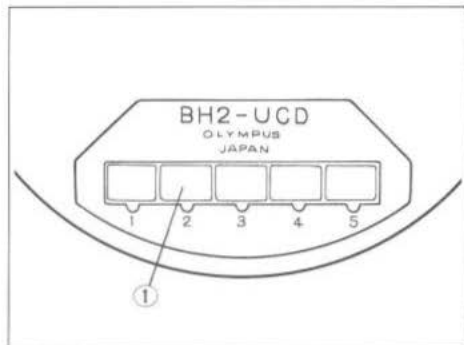

Fig. 7
(2) Attach the index plates for the optical elements into the turret below each turret aperture number on the optical element index mount ① on the top surface of the turret cover. (Fig. 7)